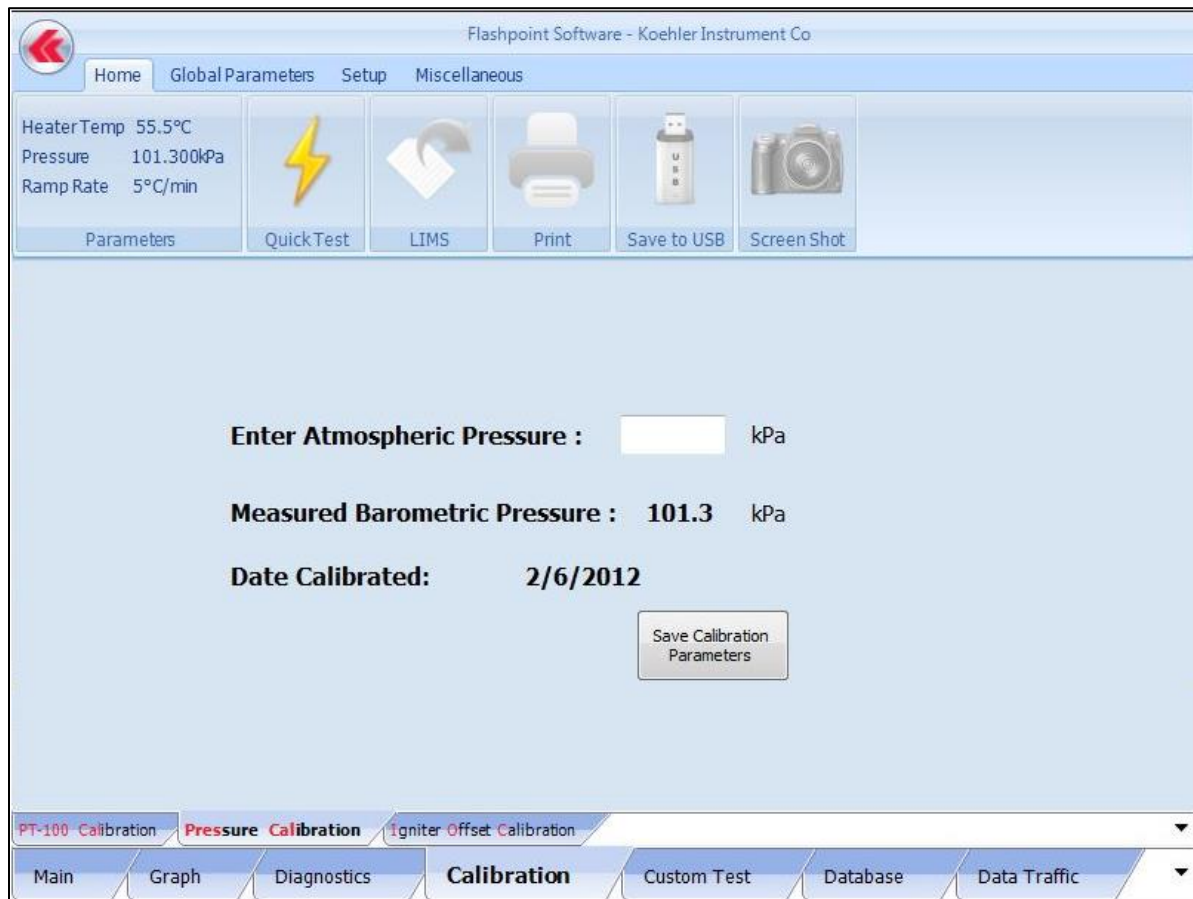

Figure 21: Calibration Screen (Pressure Calibration)
- b. **Pressure Calibration** - The Flash Point Analyzer is equipped with an Atmospheric Barometric Pressure Correction Feature. As pictured in **Figure 21** below the user can **Enter Atmospheric Pressure** in Kilopascals (kPa) into the empty field. The **Measured Barometric Pressure** is determined by the analyzers integrated barometer. Clicking Save Calibration Parameters will enter the Pressure Correction and update the **Date Calibrated**.